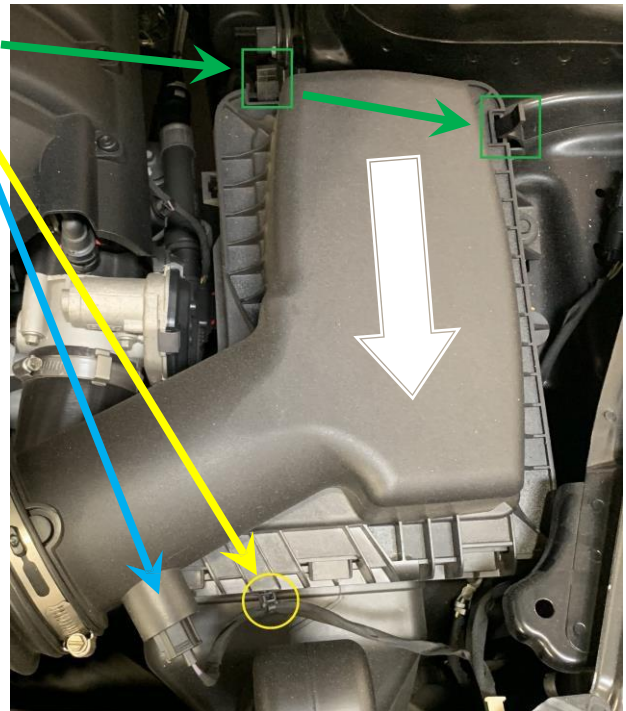

Fig. 2
- 1. Release 2 plastic tabs by pushing outward. See Fig. 2
- 3. Squeeze IAT Connector and pull to release. See Fig. 2
- 4. Slide Airbox Forward to release from base. See Fig. 2